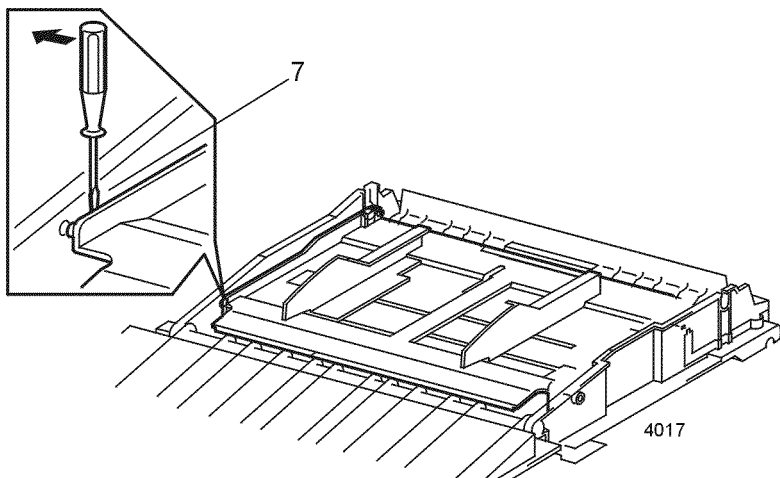

Figure 2 MBF Tray Assembly
7. Insert a screwdriver between the left side of the MBF and the MBF Tray Assembly near the tray pivot point (Figure 2). Carefully spread the two assemblies until the tray disengages from the MBF.